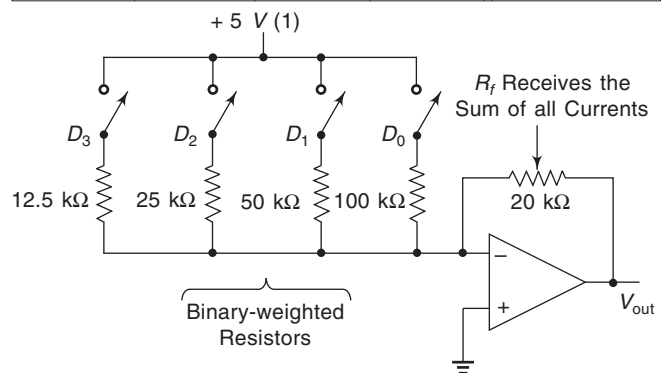

Fig. 17.5 Binary-weighted Digital-to-analog Converter.
If we scale the input resistors with a *binary weighting factor*, each input can be made to provide a binary-weighted amount of current, and the output voltage will represent a sum of all the binary-weighted input currents, as shown in Fig. 17.5.
17.14 Determine the voltage at V_{out} in Fig. 17.5 if the binary equivalent 10_{10} is input to switches D_3 to D_0 .